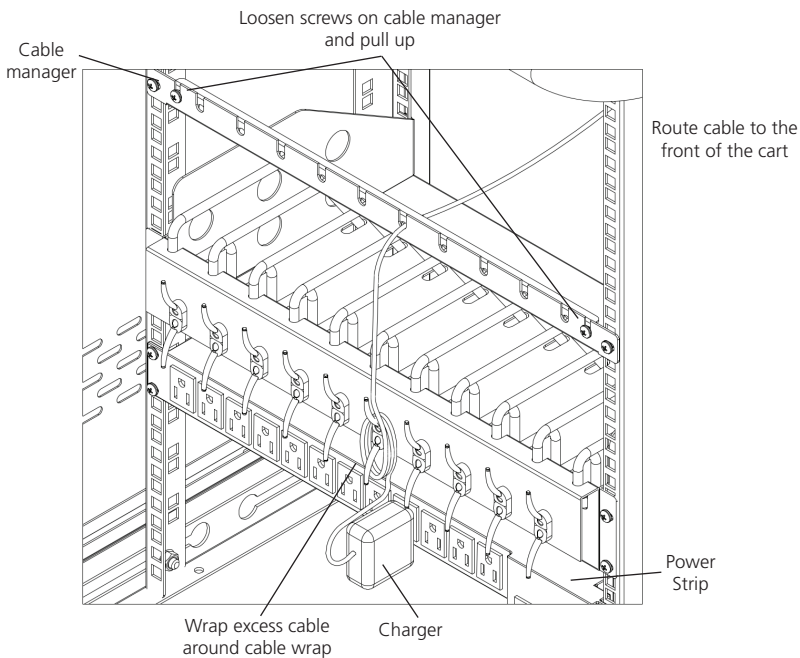

Figure 4-2. Small shelf routing instructions.
1. At the back of the cart, loosen the two screws on the cable manager, pull up on the top section of the cable manager, and place the device side of the charging cable into one of the slots. (See Figure 4-2.)